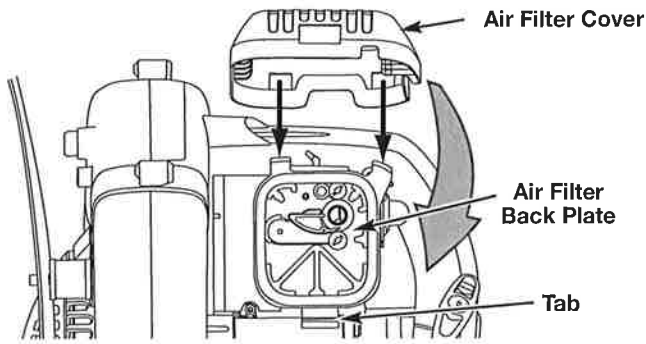

Fig. 25
8. Swing the cover down until the tab on the air filter backplate snaps into place in the slot on the air filter cover (Fig. 25).